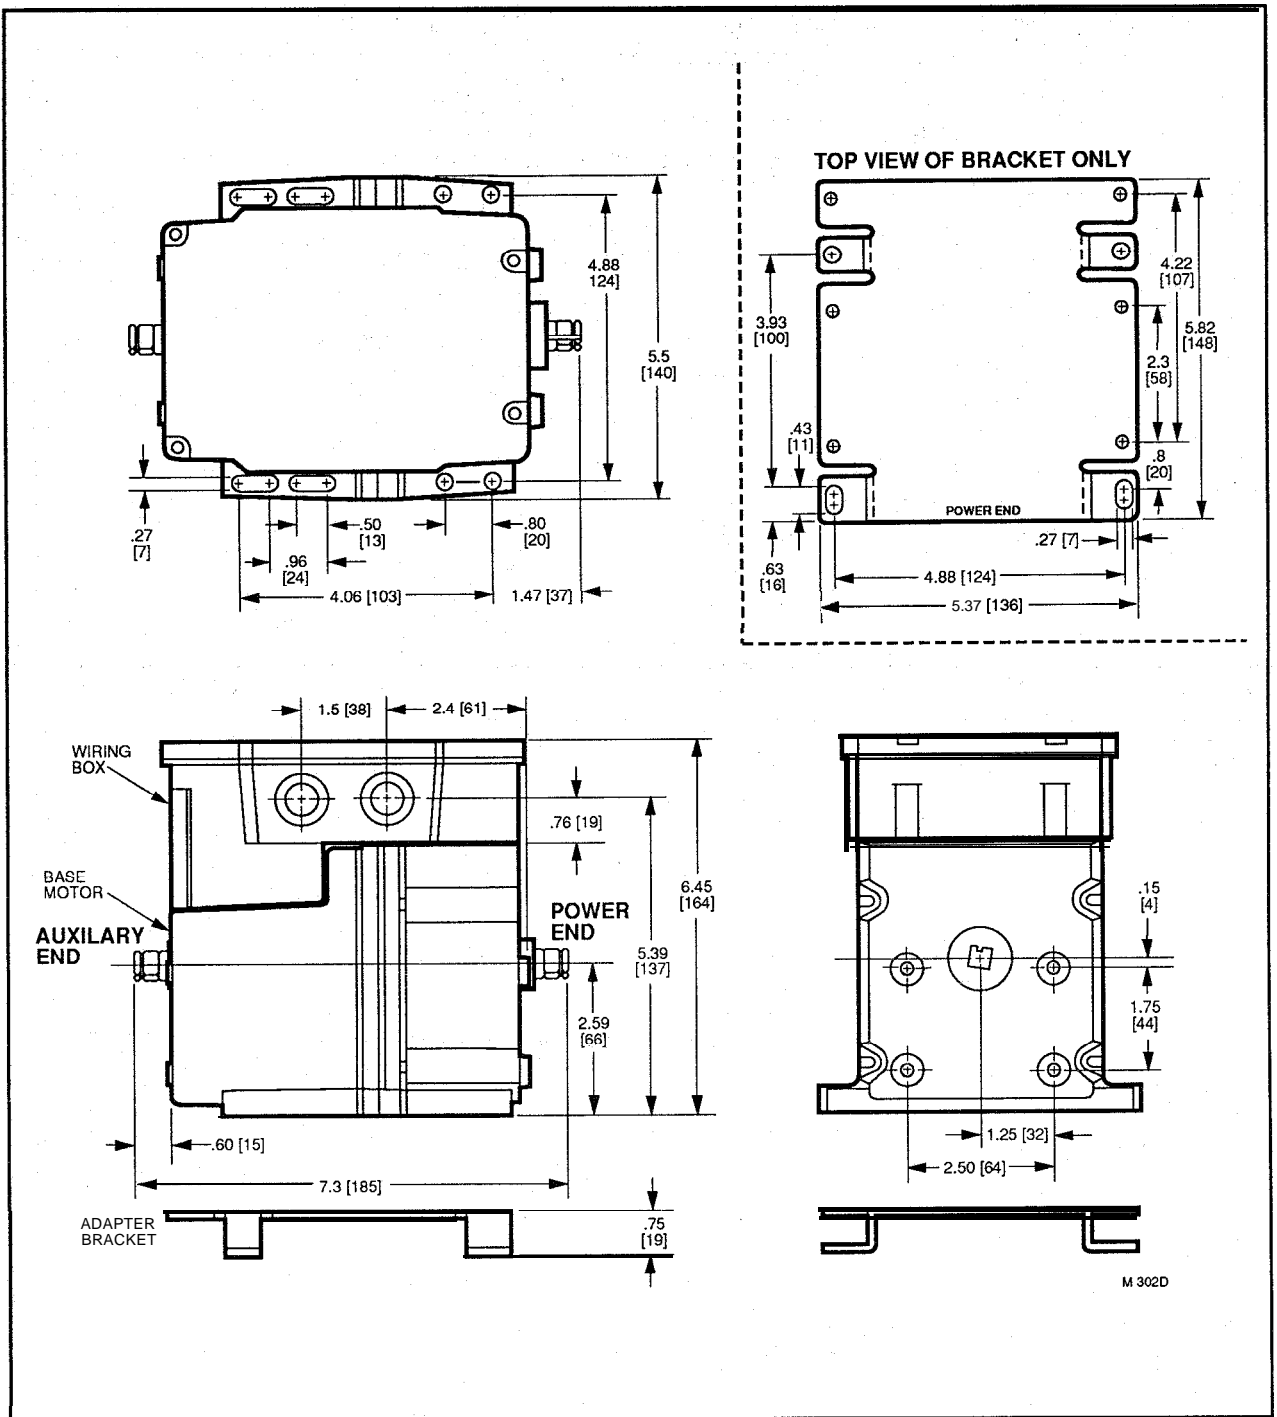

FIG. 1—DIMENSIONS IN in. [mm].
**DIMENSIONS:** See Fig. 1.
Allow enough clearance for installing accessories and servicing the motor when selecting a location. See Fig. 1. If located outdoors, mount upright and use liquid-tight con-